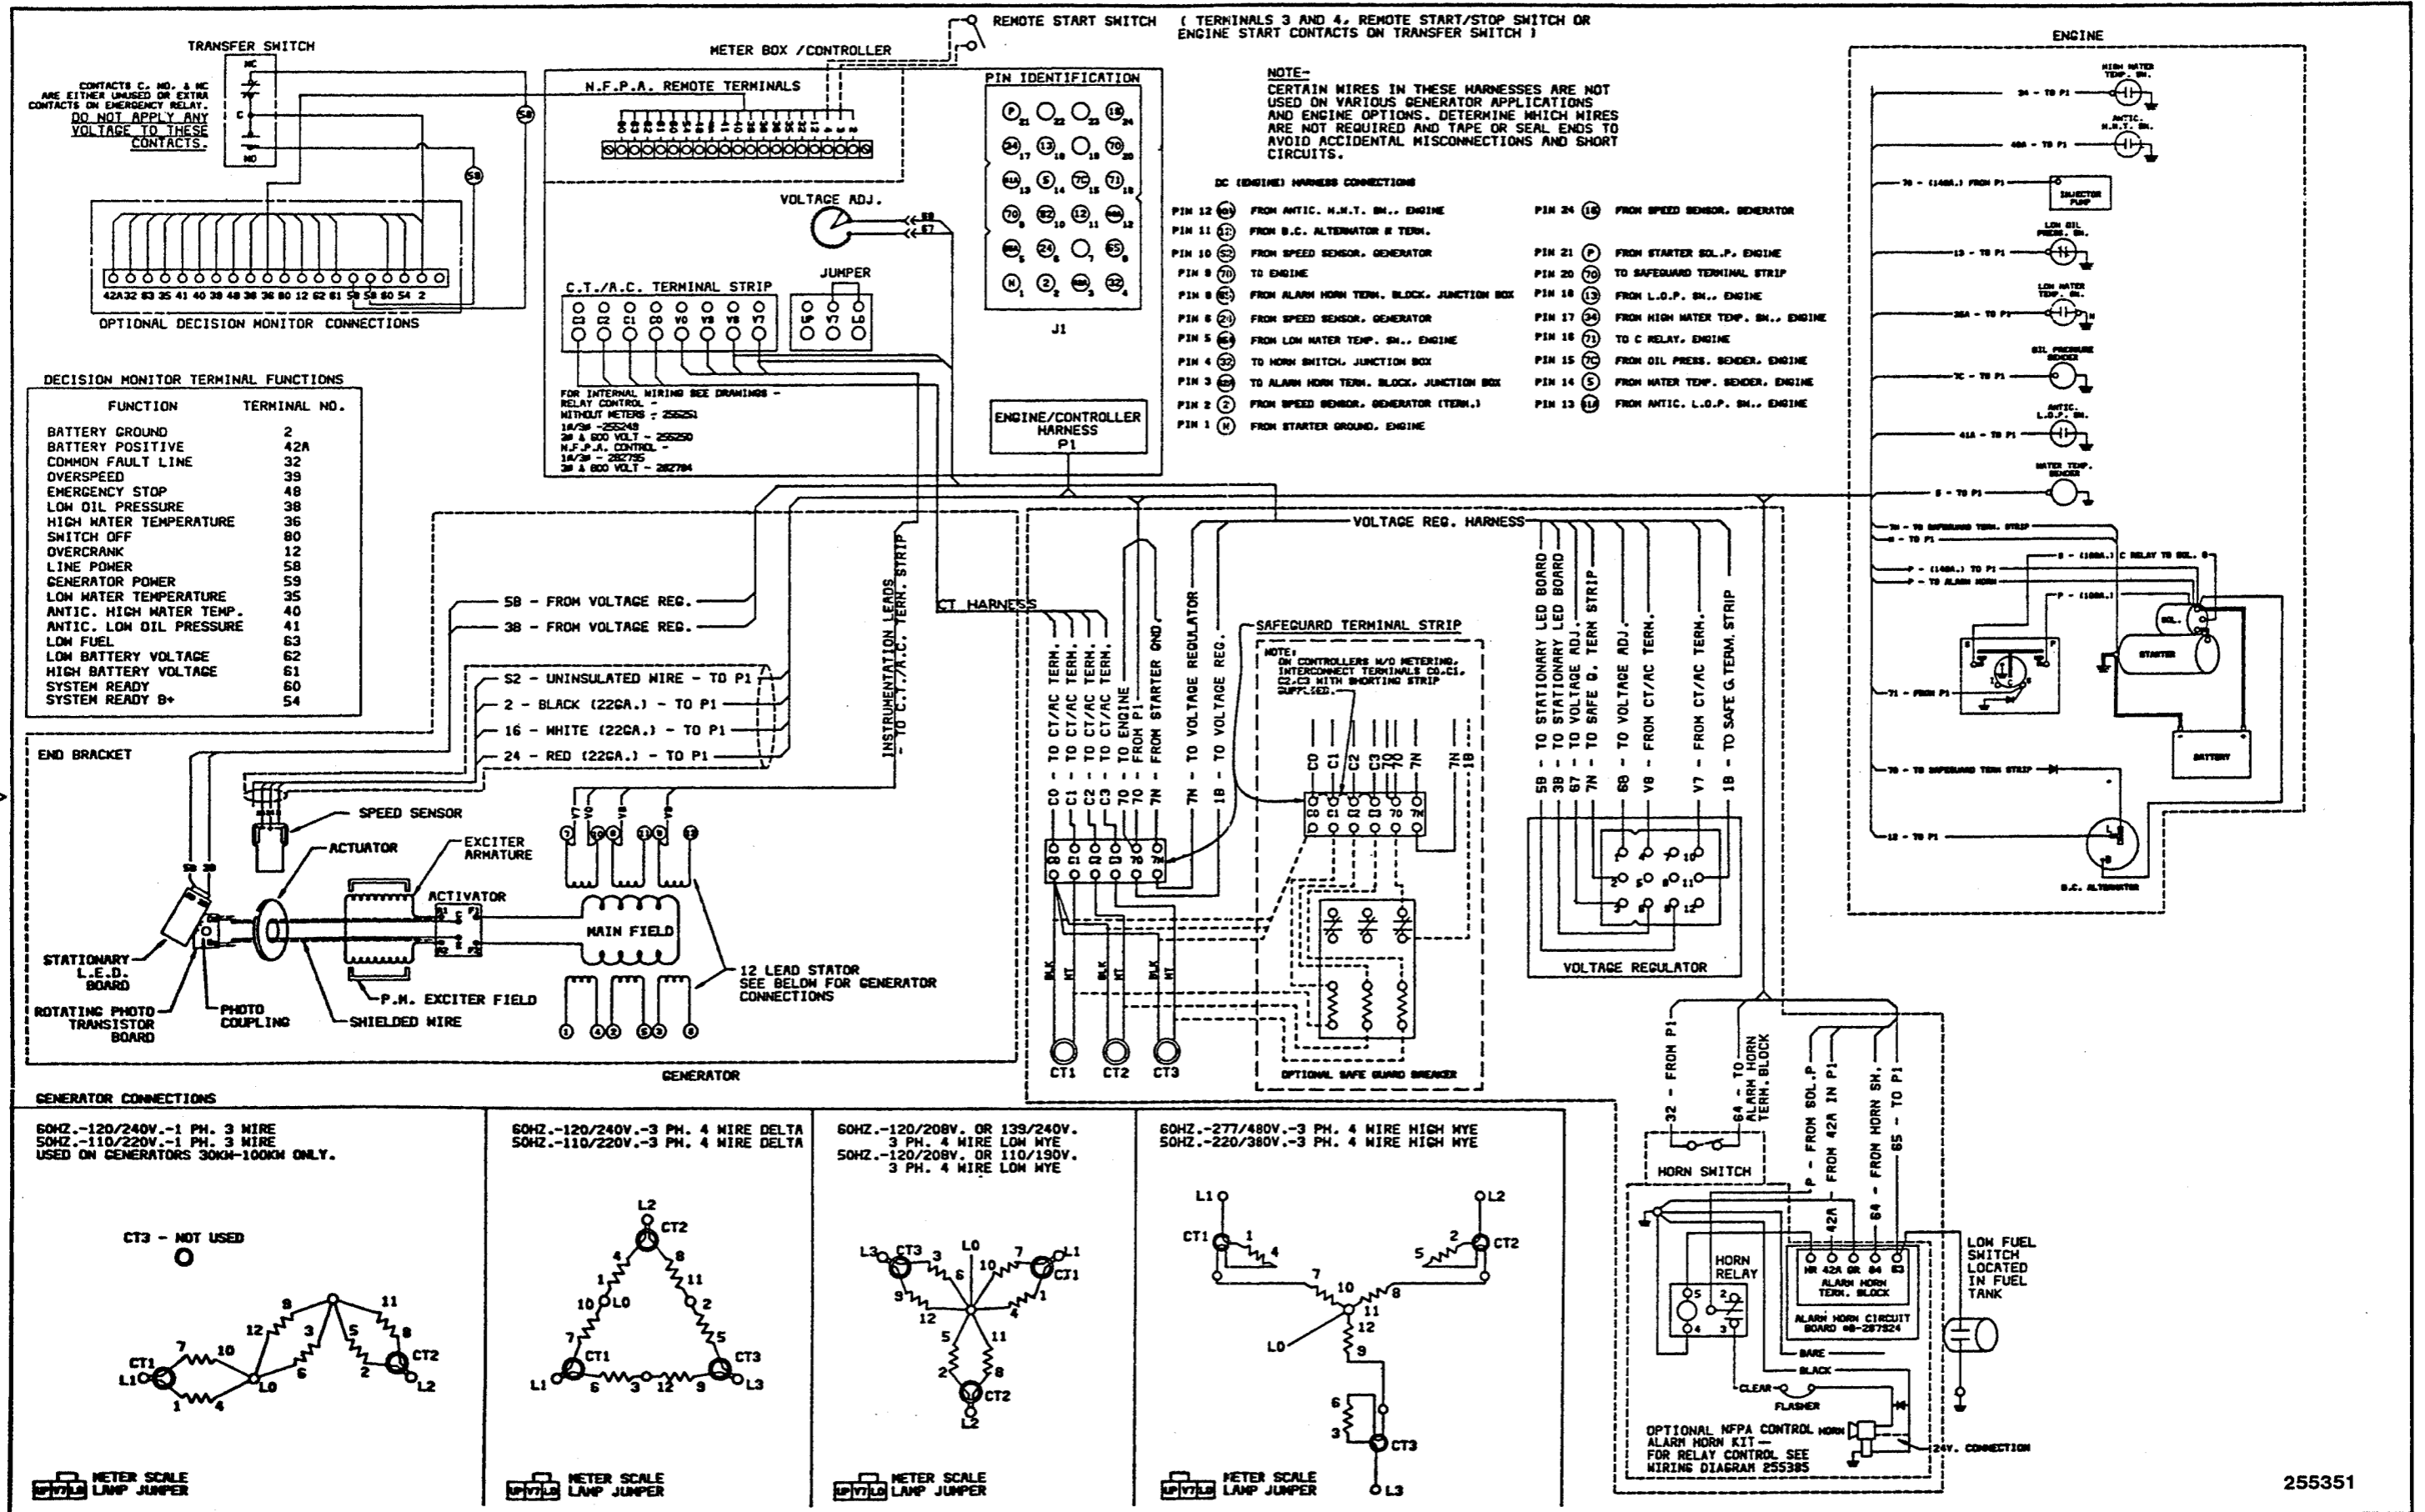

Figure 7-1. Perkins/TK-4.154 Diesel, 1-Phase/3-Phase
- Figure 7-1. Perkins/TK-4.154 Diesel, 1-Phase/3-Phase